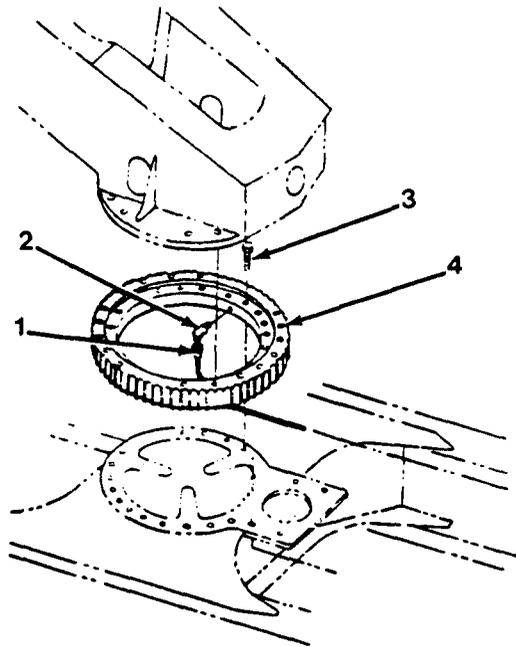

Figure 15-1
4. Install two lifting eye bolts in swing bearing 180 degrees apart. Attach lifting device and lift swing bearing (4, Figure 15-1) over rotary manifold and electrical collector ring.